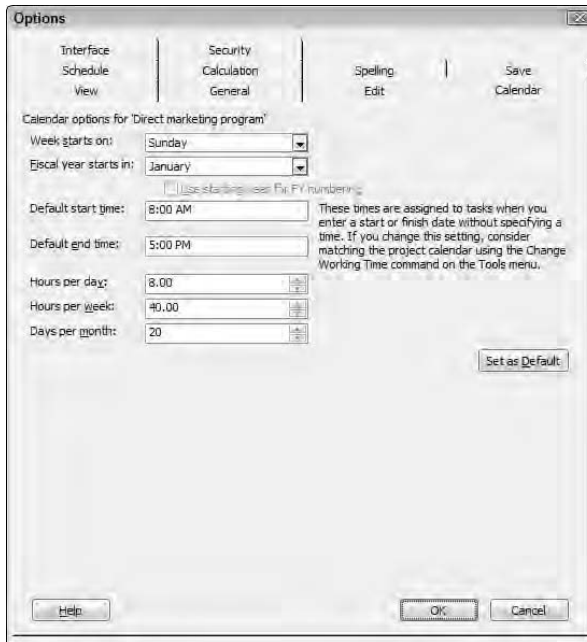

Figure 4-2:
2. Click the Calendar tab, as shown in Figure 4-2.